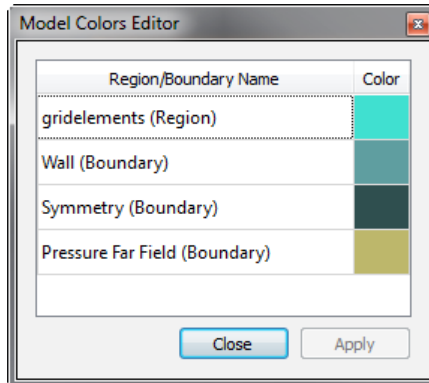

Figure 18.68: Models color editor
- Click on the *Model Colors Editor* button  (see Figure 18.68).